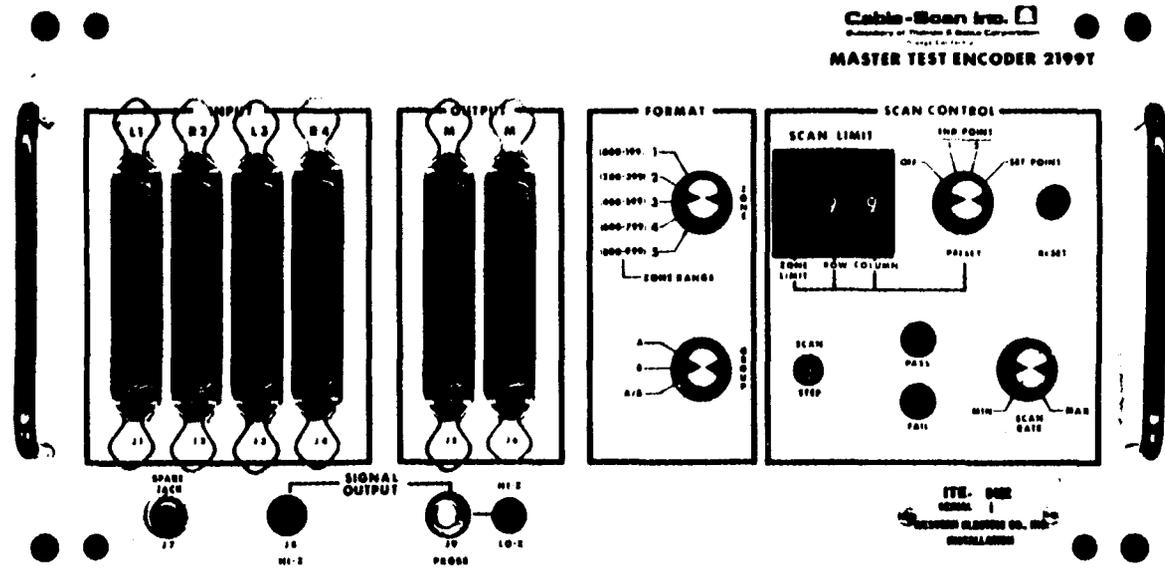

FIG. 7 ITE-5422 MASTER TEST ENCODER
2.5 ITE-5422 Master Test Encoder (Figure 7)